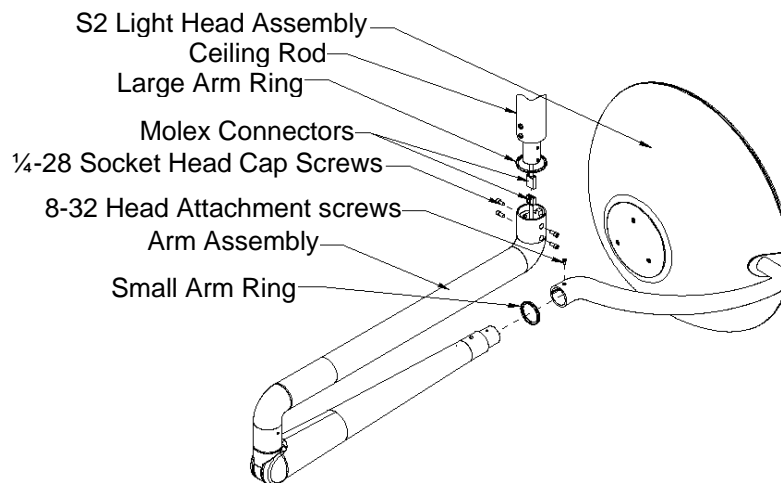

Figure 12
- While supporting each arm assembly connect the two Molex connectors together. Slide the arm assembly over the shaft protruding from the double mount and secure using the four ¼-28 socket head cap screws provided in the hardware kit.(See Figure 12). Repeat for second arm assembly.
- Connect the two Molex connectors together and slide the head assembly over the shaft protruding from the arm and secure using two 8-32 flat head screws provided in the hardware kit.(See Figure 12). Repeat for second head assembly.
- While supporting each arm assembly connect the two Molex connectors together. Slide the arm assembly over the shaft protruding from the ceiling rod and secure using the four ¼-28 socket head cap screws provided in the hardware kit.(See Figure 12, page 20). Repeat this for the second arm assembly.
- Connect the two Molex connectors together and slide the head assembly over the shaft protruding from the arm and secure using two 8-32 flat head screws provided in the hardware kit.(See Figure 12, page 20). Repeat for the second head assembly.